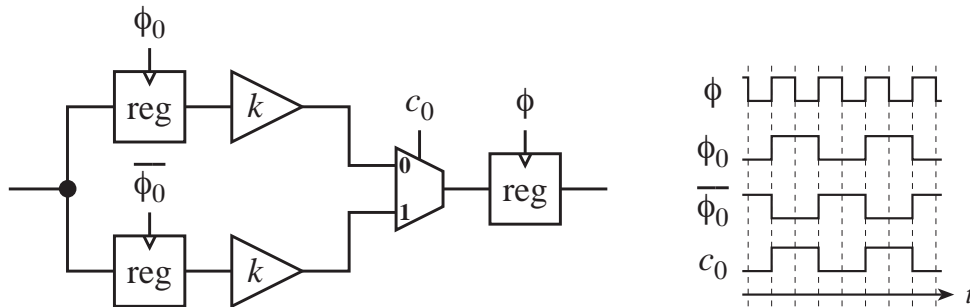

Figure 4. Interleaved multiplier.
6. A multiplier with constant coefficient  $k$  is interleaved with a factor of 2 according to Figure 4. The lowest power supply voltage for the given clock frequency is  $V_{DD} = 2.4$  V, yielding a total dynamic power consumption  $P_0$ .